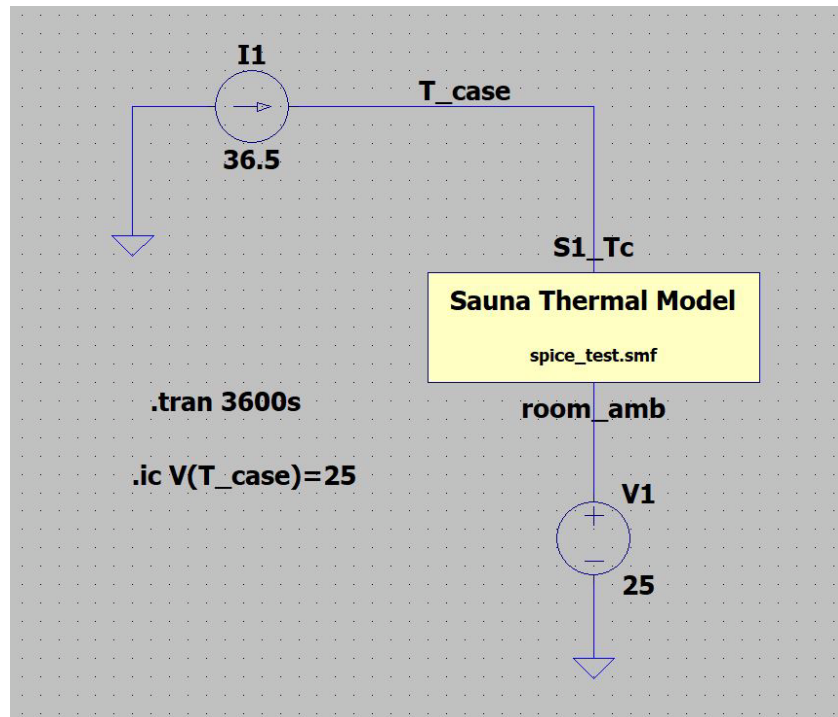

Figure 10: Model setup for transient analysis
Follow these steps to run a transient analysis of one hour (see Figure 10):
3. There's one last step. You need to tell LTspice to start the heat sink at 25C. You will do this with an initial condition of 25 for V(T_case). As you have done before, define the “.ic V(T_case)=25” dot command shown in Figure 10.